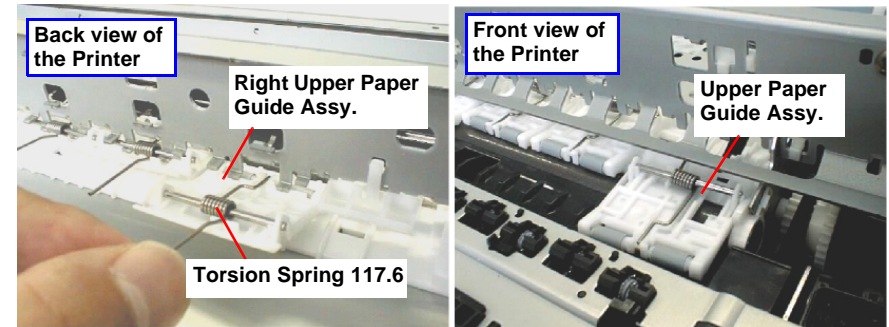

Figure 4-57. Removing the Upper Paper Guide Assembly
- 7) Remove the Upper Paper Guide Assemblies (Refer to “Note”) and one Right Paper Guide Assembly, in the following direction, releasing their Torsion Springs 117.6 from the hooks on the Top Frame. Refer to Figure 4-57
- 3) Remove the Right Upper Paper Guide to forward releasing the Torsion Spring 117.6. Refer to Figure 4-57.